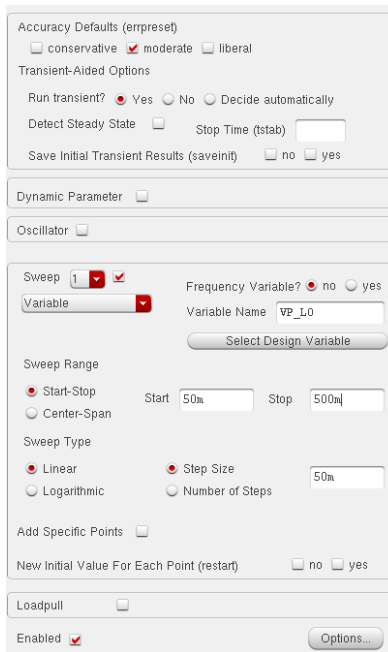

Fig. 10
- Check “sweep” option in PSS form and set it up as shown in Fig. 10.